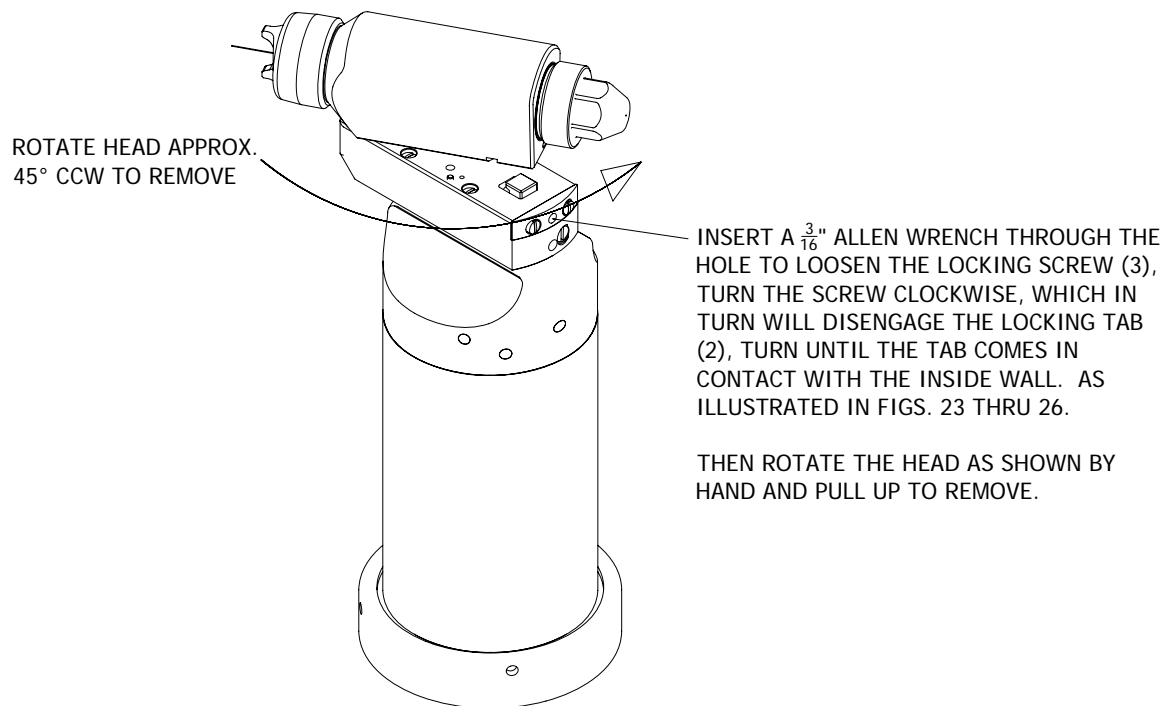
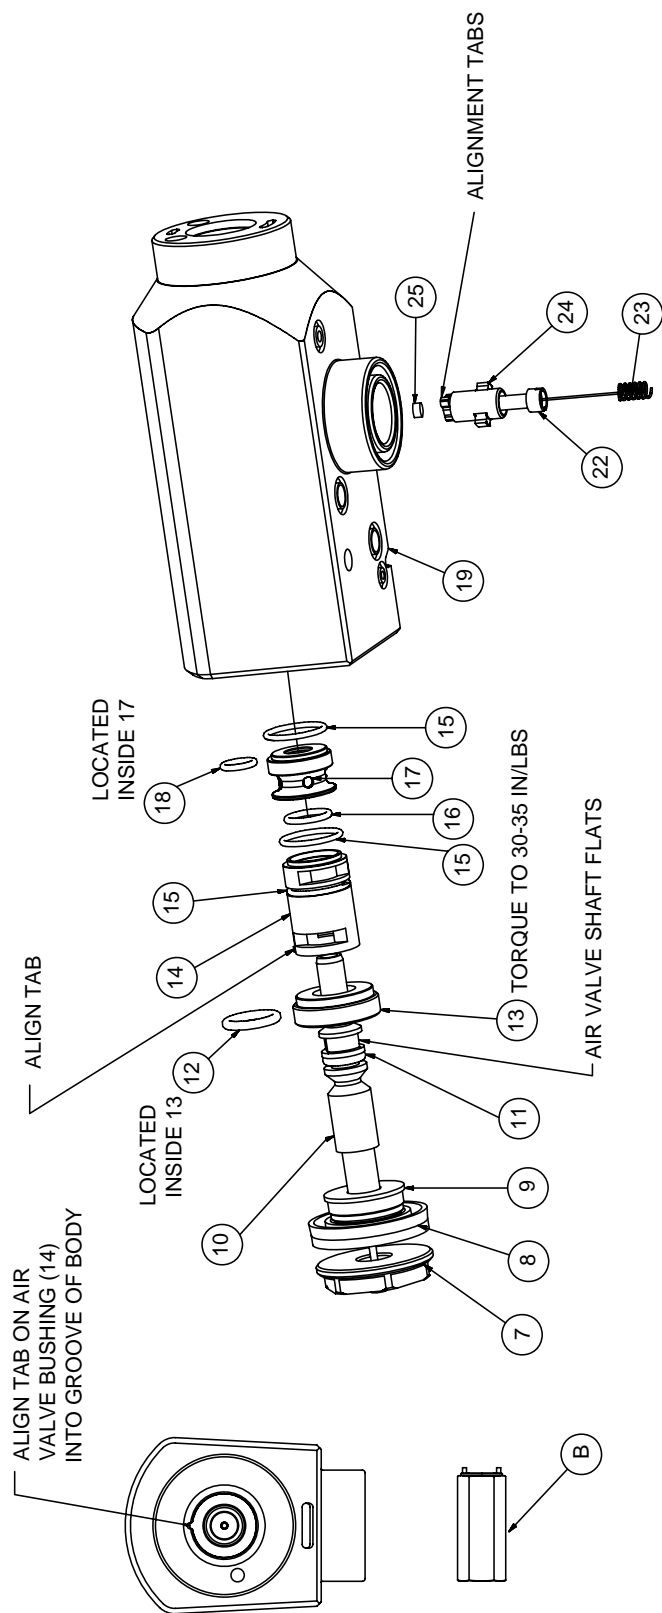
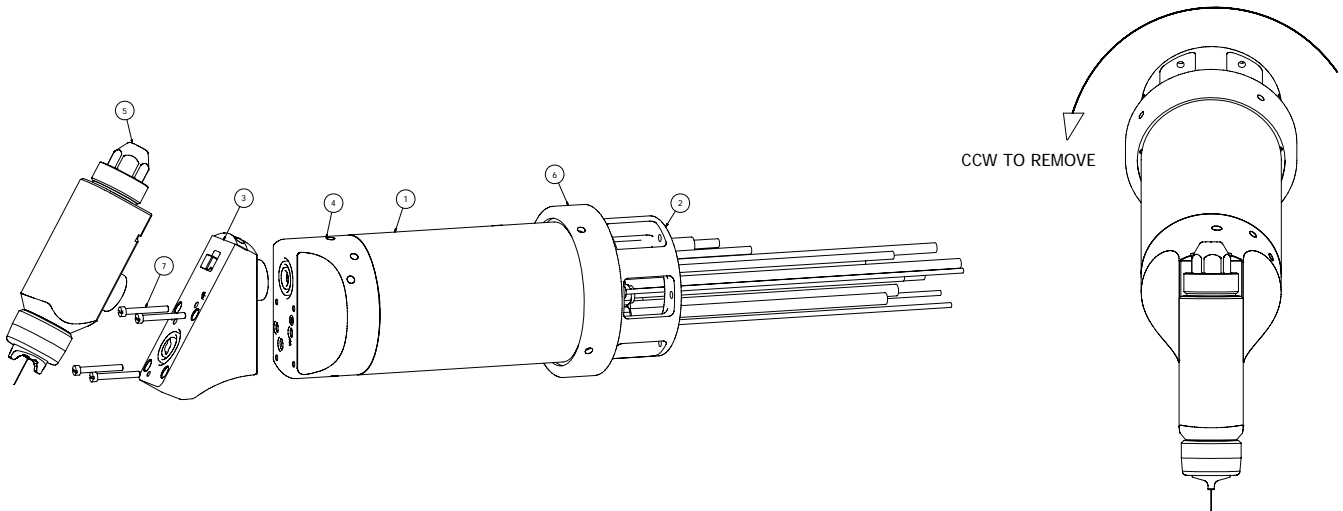

Figure 13a: Spray Head Removal
Figure 14: 79138 Evolver 303 Dual Purge Applicator Head Assembly
Figure 15: Evolver 303 Dual Purge 60° Single Head Applicator Assembly
(See Figures 13a and 13b)**
The spray head can be removed from assembly as shown in Figure 13a for cleaning and service.
- ▶ At assembly, apply a small amount of dielectric grease to grooves in spray head and valve manifold to reduce high voltage breakdown. Excessive grease will not allow spray head [5] to seat fully against mounting block assembly [3] (see Figure 15).
(See Figures 13a, 13b, 14, and 15)
15. Re-attach spray head to manifold block by engaging the connection plug [24] (Figure 14) into the mounting block cavity [3] (Figure 15), and turn clockwise until head contacts stop pin on the block, as shown in Figure 13a.
16. Secure with locking tab by turning screw counter-clockwise (see Figure 13a).
(See Figure 14)
6. O-rings [12] and [18] must be installed inside their mating parts (see Figure 14).
8. Reassemble the remaining parts as shown in Figure 14 making sure that the alignment tab on the bushing [14] lines up with the align groove in the body [19].
79138 EVOLVER 303 DUAL PURGE APPLICATOR HEAD ASSEMBLY - PARTS LIST (Figure 14)
(See Figure 15)
4. Remove applicator from robot by turning the retaining ring [6] counter-clockwise from the manifold robot mounting plate [2] (see Figure 15).
5. Remove spray head [5] (Figure 15) as previously described in Figure 13a.
Spray Applicator Disassembly (See Figures 15, 16, and 17)
6. Remove the four (4) screws [7] from mounting block [3] and pull the block out of the upper manifold [4] as shown in Figure 15.
EVOLVER 303 DUAL PURGE 60° SINGLE HEAD APPLICATOR ASSEMBLY - PARTS LIST (Figure 15)